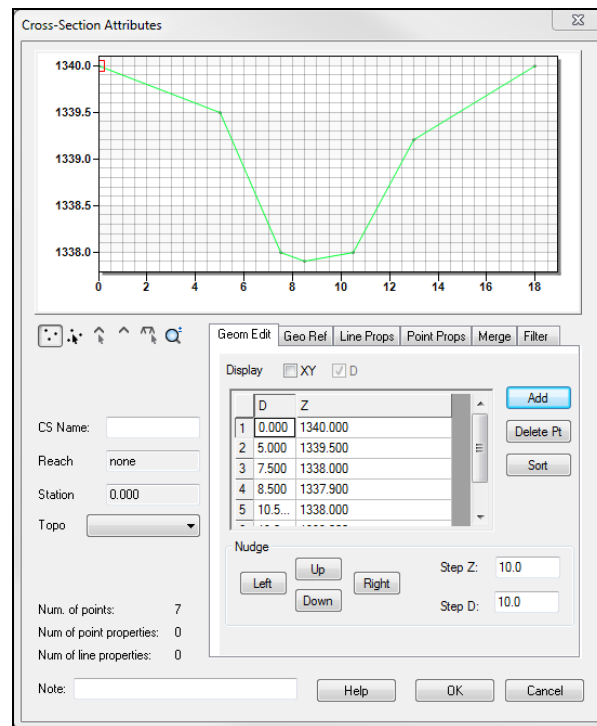

Figure 2 Adding cross section geometry data to the database
2. Click **New Database** to create a new database titled “CSDB (3)”.
8. Copy and paste the cross section data for “Channel Section 1” from “channel.txt” (opened in the selected text editor) into the *Geom Edit* tab of the *Cross Section Attributes* dialog as shown in Figure 2. Make sure to paste the data into the first row.